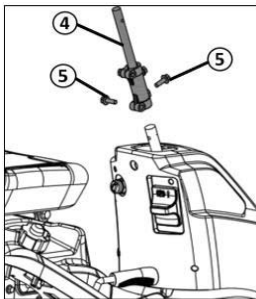
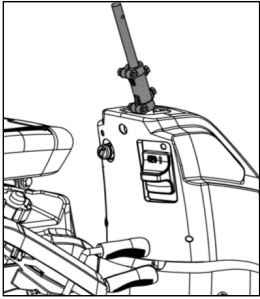

Figure 7
Figure 8
1. Install the direction rod assembly to the designated position of the ride on mower according to the method shown in Figure 7, and the installation status is shown in Figure 8.